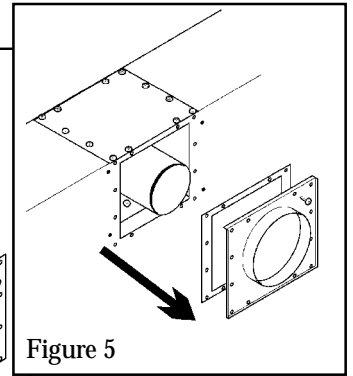

Figure 5
1. Remove the rear outer flue collar and seal by unscrewing 12 screws (See figure 5).